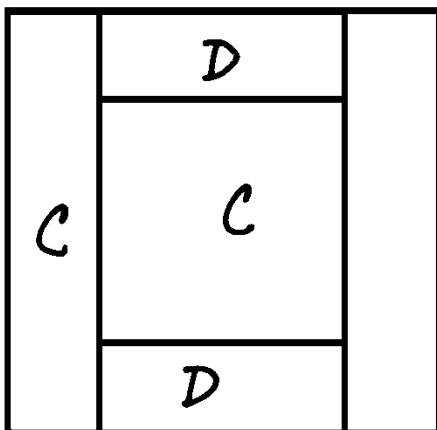

Figure 2
1. Cut two long base pieces (C) from 1 x 6 pine, each 24" long.
2. Cut two short base pieces (D) from 1 x 6 pine, each 13" long.
3. To assemble the base frame, place the two long base pieces (C) on a level surface, parallel to each other and 13" apart. Place the two short base pieces (D) between the long base pieces (C) to form a 24" x 24" square, as shown in *Figure 2*. Glue and clamp the four pieces together. Leave the assembly undisturbed for at least 24 hours.